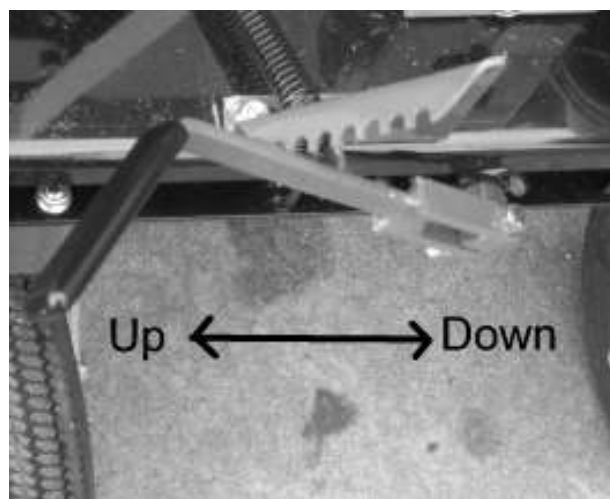

Figure 4 Adjustable Grate
2. Set grate to highest position (Figure 4.)
Note: Moving the grate lever to the right will lower the grate and moving the lever to the left will raise the grate (Figure 4.)